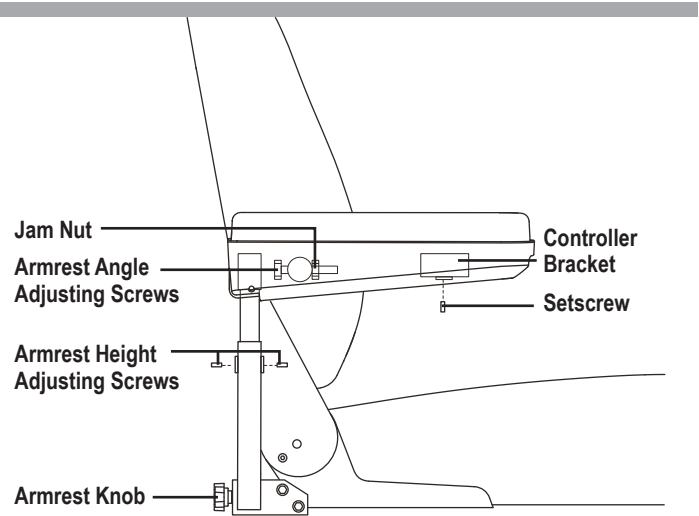

Figure 11. Seatback/Armrest Adjustment
- Attach the four (4) tie-down straps to only designated, labeled transit securement points indicated by anchor symbols on the power chair. **See figures 11 and 12.** Tighten the straps sufficiently to remove all slack.
1. Locate the two armrest knobs on each side of the armrest receiver bracket. **See figure 11.**
1. Lift the armrest straight up so that it is perpendicular to the floor. **See figure 11.**
2. Loosen the setscrew on the controller bracket. **See figure 11.**